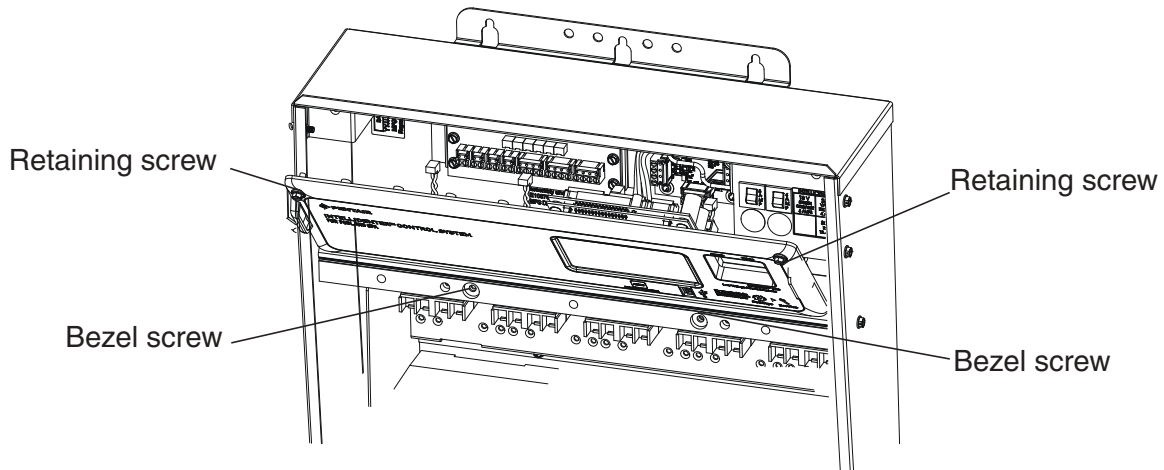

Figure 7. IntelliCenter Control System Outdoor Control Panel
4. Secure the control panel bezel to the enclosure with the two retaining screws. See Figure 7.